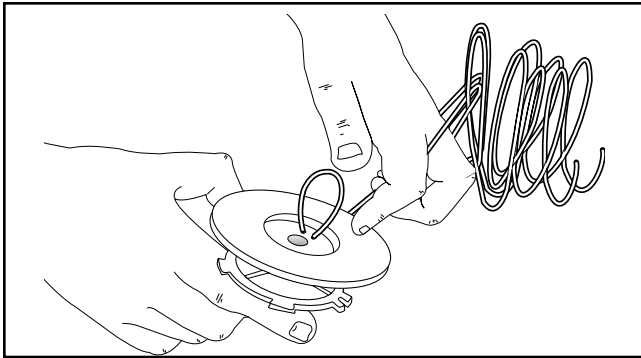

Fig. 30
1. Take approximately 12.7 m (50 ft) of new trimming line, loop it into two equal lengths. Insert each end of the line through one of the two holes in the inner reel (Fig. 30). Pull the line so that the loop is as small as possible.